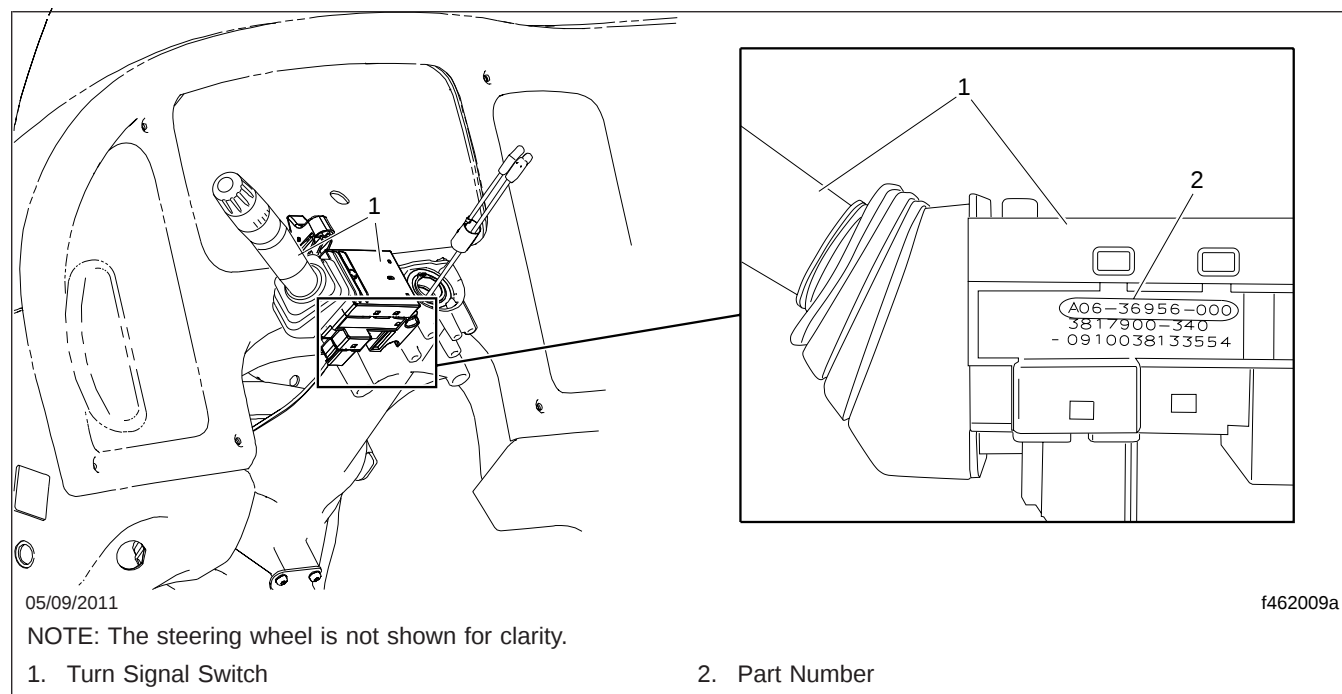

Fig. 1, Steering Column Clamshell Cover Assembly Removed
2. Locate the part number on the multifunction turn signal switch. See Fig. 1.